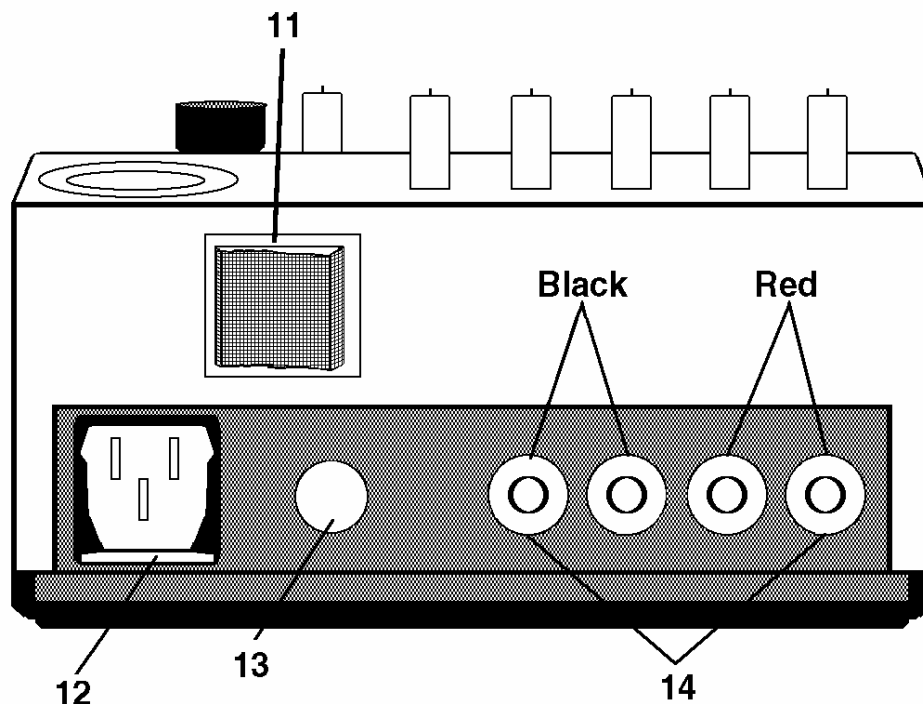

Figure 1-3. Safety analyzer rear panel.
- (1) Test receptacle. Provides operating voltage to the UUT (number 9).
- (2) Electrocardiograph binding posts. Accepts all styles of electrocardiograph connectors (disposable snaps, 3.2mm pins, and 4mm pins) (number 10).
c. Rear Panel Connectors and Controls. Refer to figure 1-3 for an illustration of the rear panel.
- (1) Power switch. Turns on the safety analyzer and supplies power to the test receptacle (number 11).
- (2) Power cord receptacle. Receptacle for power cord plug (number 12).